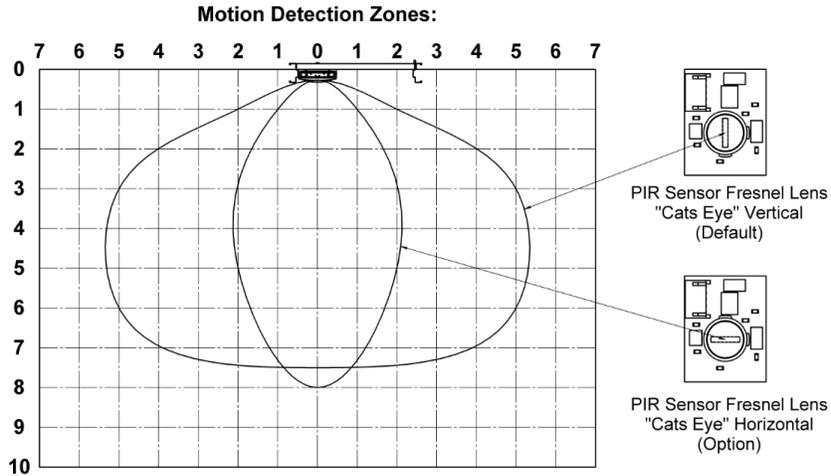
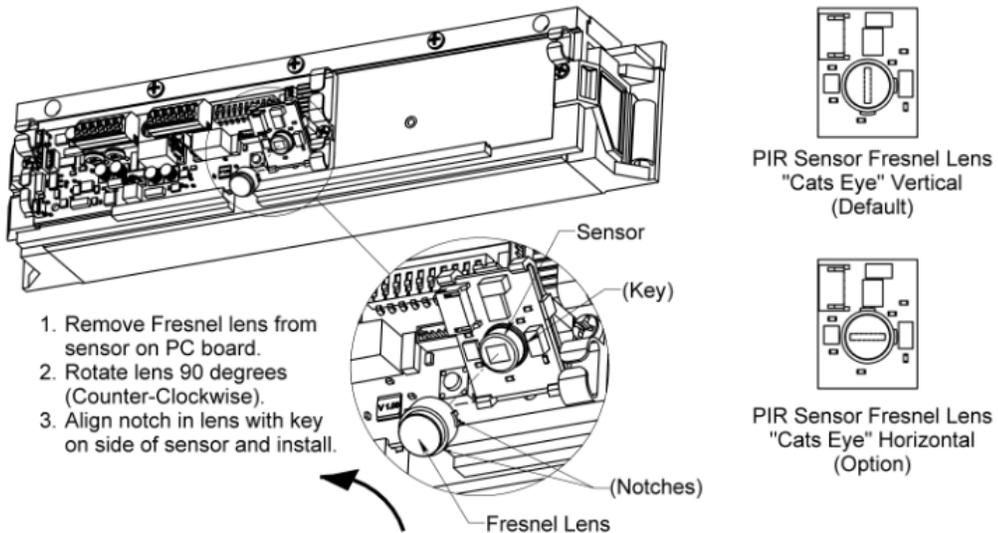

Figure 39. Normal Sensitivity PIR Coverage
Figure 41. Changing the Fresnel Lens Orientation
1. VERIFY PIR coverage and ADJUST PIR coverage as desired (see Figure 39 and 40, "PIR Coverage" and Figure 41, "Changing the Fresnel Lens Orientation").